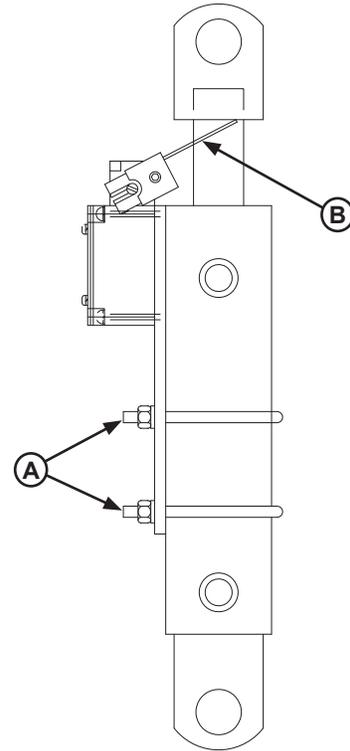

Figure 31
3. Press the RAISE button. The dock leveler should NOT raise. If the leveler did not raise, proceed with step 4. If the leveler did raise, loosen U-bolts (A) and adjust microswitch mounting plate forward so that switch feeler arm (B) is engaged by lip cylinder yoke when stored. See Figure 31.
6. Press the RELEASE button. The vehicle restraint should NOT disengage from the transport vehicle RIG bar or test fixture. If the vehicle restraint did NOT engage, proceed with step 7. If the vehicle restraint DID disengage, loosen U-bolts (A) and adjust microswitch mounting plate backward so that switch feeler arm (B) is not engaged by lip cylinder yoke in below-dock position. See Figure 31.